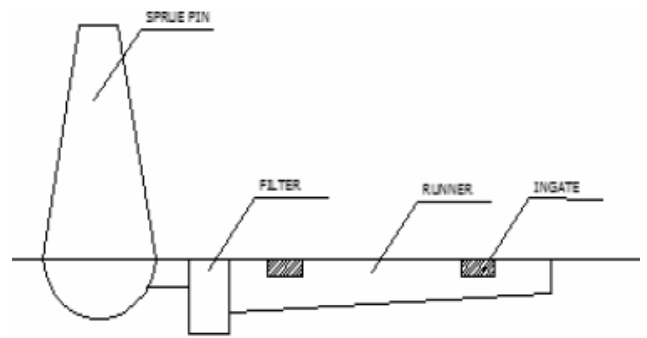

Fig. 7
- Provision of Ceramic Filter gating ratio: 1 : 1.1 : 1.2 (Fig.7)